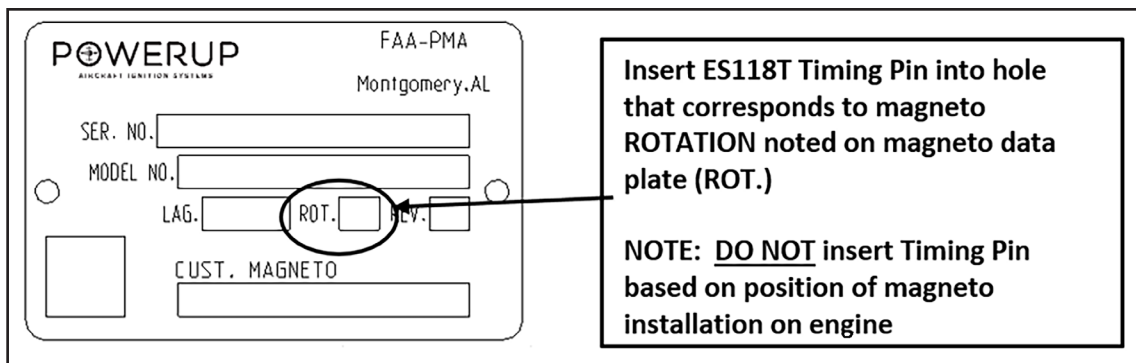

Figure 6.10 – Magneto Rotation Identification
- (7) Identify the rotation of the magneto by the letter “R” or “L” that is stamped in the box labeled “ROT” on the magneto data plate. Refer to Figure 6.10.